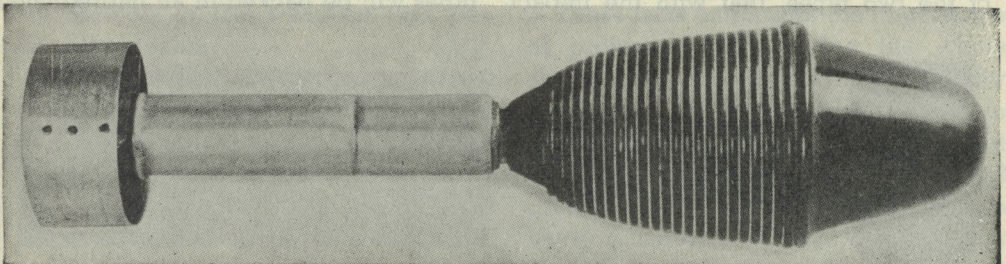

Fig. 4: Grenade Rifle, Combined Anti-Tank and A/Personnel, No. 85, Mark 2.
(2) Another development which is likely to come forward more rapidly than (1) is a Mk. 2 No. 85 grenade, which would be a dual purpose anti-tank/anti-personnel rifle grenade. (Fig. 4). As it stands the existing No. 85 grenade and the M.9.A.1. have poor anti-personnel performance owing to their thin casings. The Mk. 2 design calls for a wire-wound body to increase